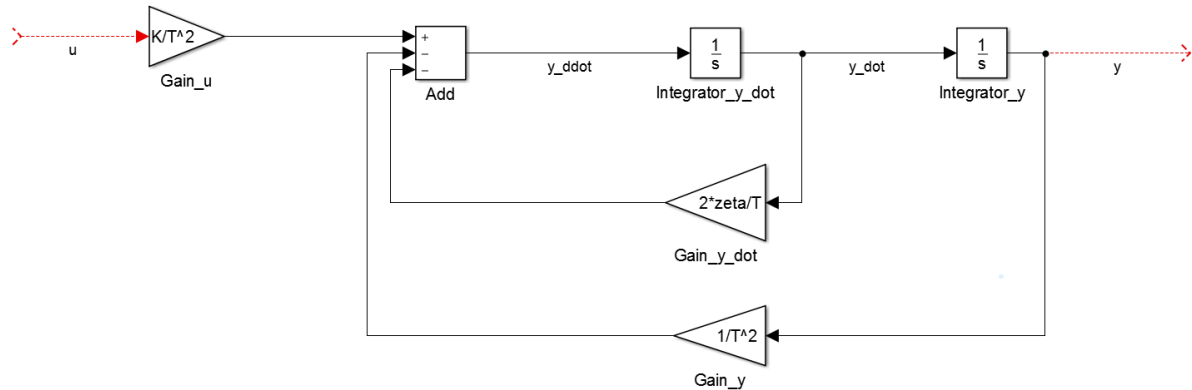

Figure 1-2: PT2 system
- (6) Connect the blocks to obtain the diagram as shown in Figure 1-2. Rename the input signal to the `Gain_u`-block as `u`.